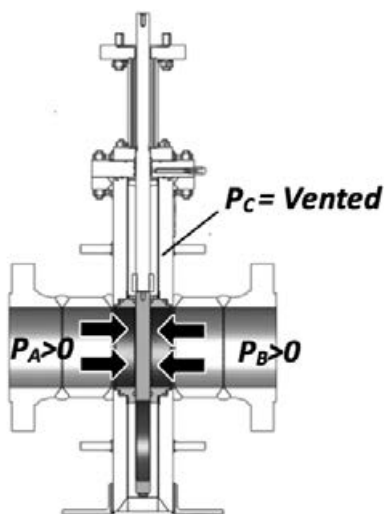

Figure 5: DBB — upstream side (P_A) and downstream side (P_B) simultaneously isolated with cavity vented
- Double block and bleed (DBB) types A and B (API 6D) [Figure 5]:**